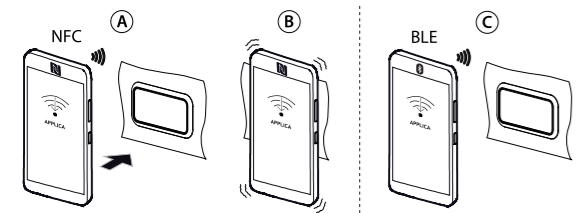

Fig. 2
- move the mobile device near to the user terminal, maximum distance 10 mm, so as to recognise the configuration (Fig. 2 - ref. A);
- move the mobile device near to the user terminal again to upload the configuration parameters (Fig. 2 - ref. B);
- move the mobile device near to the user terminal, maximum distance 10 m, to recognise the configuration (Fig. 2 - ref. C);